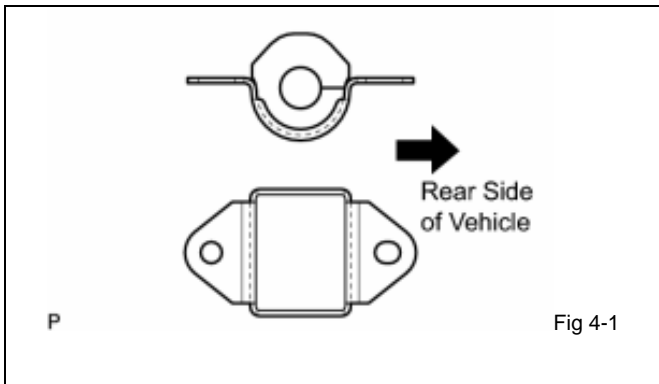

Fig 4-1
- (1) Be sure to install the rear stabilizer bushing so that the cut in the bushing faces the rear of the vehicle. (Fig 4-1)
- (2) Bushings should be positioned to the very edges of the straight portion of the bar.